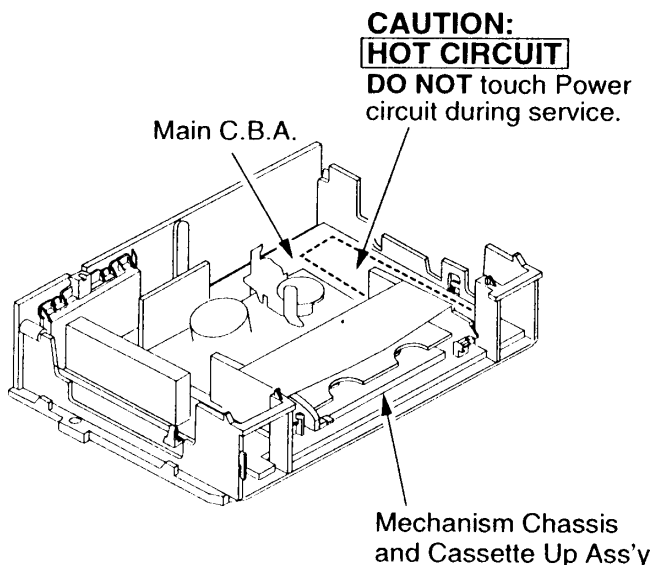

Fig. 2 - Service Position 1 (Bottom Cover Removal)
Service Position (1) (Fig. 2)
2. Position the unit as shown in Fig. 2 to access the areas requiring service.